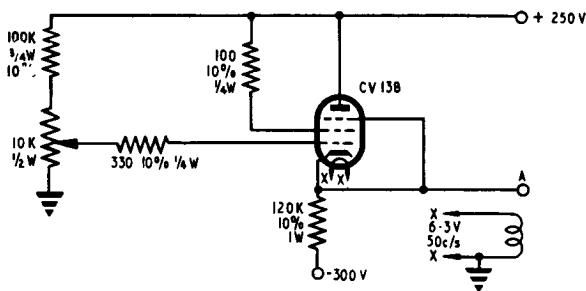

Fig. 11. Low-impedance voltage source for para. 108 tests
108. If unsatisfactory operation of RV1 (the ORIGIN COINCIDENCE, SCAN/I.T. control) or of RV2 (the GAIN EQUALIZE, SCAN/I.T. control) is suspected, the test circuit shown in fig. 11 must be improvised using the same $+250\text{V}$ and -300V that feed the amplifier under test, and a thorough check made as follows:—
- (1) Set SWA to position 2, thus earthing all input channels; remove all inputs from SK5 and SK6.
- (2) Connect the electronic multimeter Type CT38 between SK9 on the amplifier and point A in the test circuit of fig. 11. Swing RV1 over its entire range and check that the variation of multimeter reading exceeds 1V. (Use the multimeter on its 2.5V range, and adjust the potentiometer in the test circuit so that the variation is conveniently placed on the scale.)
- (3) Apply -20V and $+12.5\text{V}$ to V2 as in para. 107 (8) to simulate the "gated" condition, and check that the new potential at SK9 falls within the range previously obtained by varying RV1. Note this potential then remove the -20V and $+12.5\text{V}$ from V2 and adjust RV1 so that the potential in each condition is the same.
- (4) Set SWA to position 3 and check that the variation obtainable at SK9 by swinging